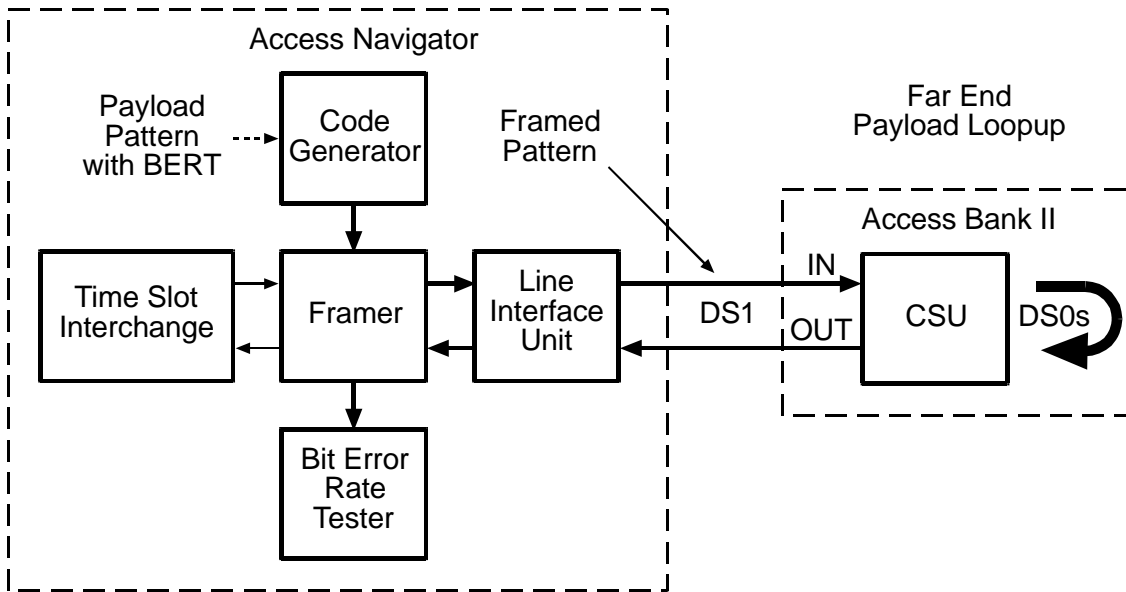

Figure 18-11. Send DS1 Payload Pattern with BER Test
**NOTE:** This command works with ESF and D4 (SF) framing.
**Purpose:** Transmits a framed test pattern and performs a Bit Error Rate Test (BERT) or pattern synchronization test to verify the quality of the DS1 signal reaching far-end CSU equipment, such as the Access Bank II. When the operator requests a p2e, qrss, or all-ones test pattern, the Access Navigator transmits the test pattern while using its internal Bit Error Rate Tester to measure the bit error rate. See Figure 18-11. For the all-zeros and 1-in-8 patterns, the Access Navigator tests for pattern synchronization.